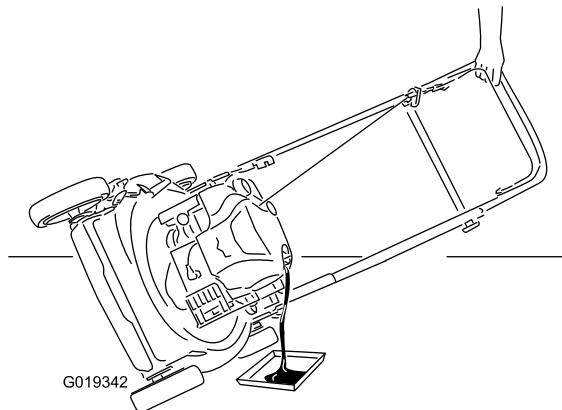

Figure 33
7. Tip the machine onto its side, with the oil-fill tube down, to drain the used oil out through the oil-fill tube into the oil-drain pan (Figure 33).